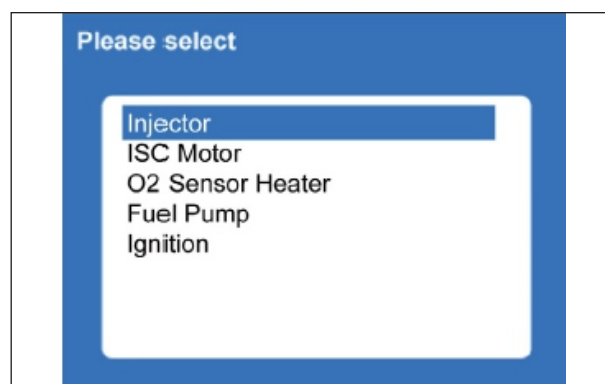

Fig. 7.20
- This is used to test the individual actuators. (Fig. 7.20)
- The actuator to be tested is selected and the test is run by selecting ON(F3) on physical inspection of the actuator it can be verified for its nominal operation. (Fig. 7.20)